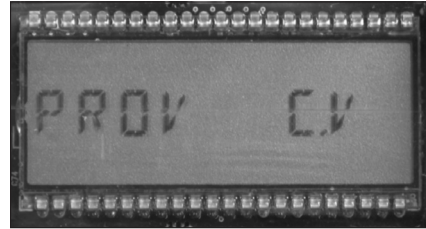

Figure 3 - LCD screen displays **PROV C.V**
- A. Using the magnet swipe across the "swipe" line until the screen displays **PROV C.V** (Figure 3), and then stop swiping.